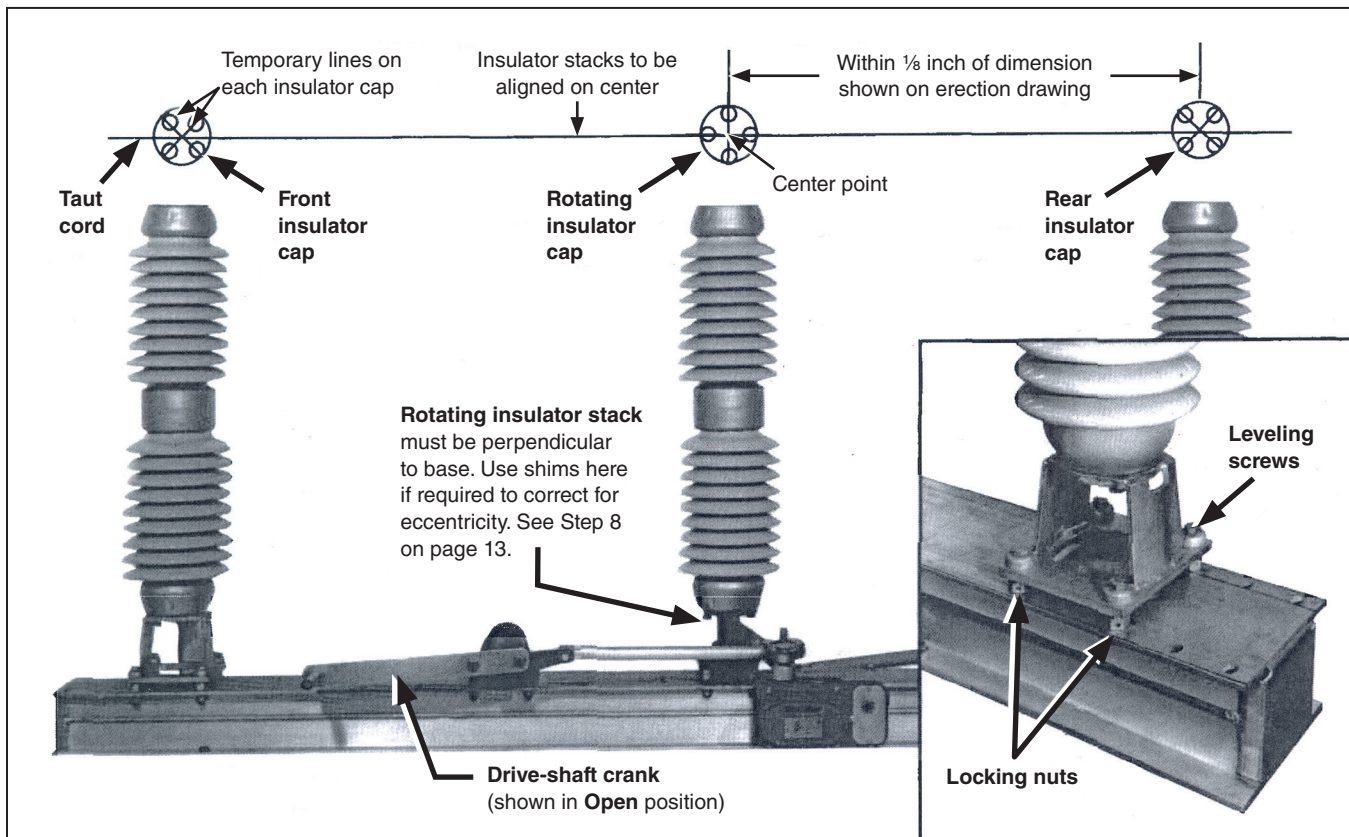

Figure 9. Obtaining critical dimension and alignment with shims and leveling screws.
- (a) Locate the center point of each insulator stack by accurately drawing, on the top of the insulator cap, temporary lines which bisect and connect opposite bolt holes. See Figure 9 on page 14.
- (b) Measure the centerline distance across the top from the centerpoint of the rotating insulator stack to the centerpoint of the rear insulator stack. This measurement must be within $\frac{1}{8}$ -inch of the dimension shown on the erection drawing. See Figure 9.
- (a) Loosen the four locking nuts and adjust the leveling screws located under the stationary insulator support. See Figure 9. (The leveling screws are threaded into the insulator-support flange.) To avoid changing the effective height of the insulator stack, do not adjust more than three of the four leveling screws.